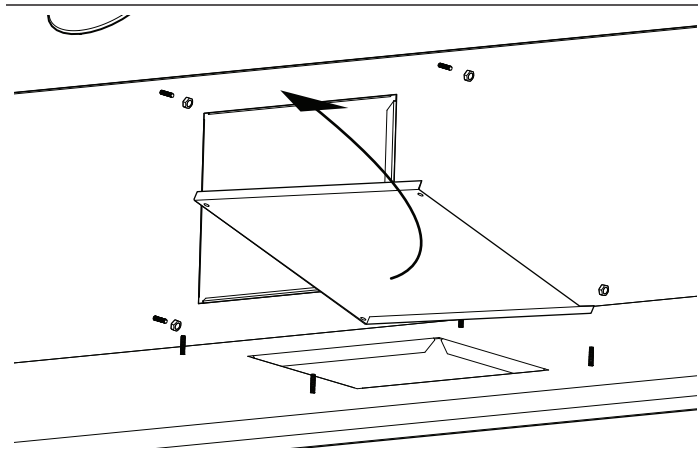

Figure 5: Discharge Direction
1. To change to horizontal discharge, move the discharge cover, shown in *Figure 5*, to the top of the hood. The plate is held in place by (4) 3/8" hex nuts.